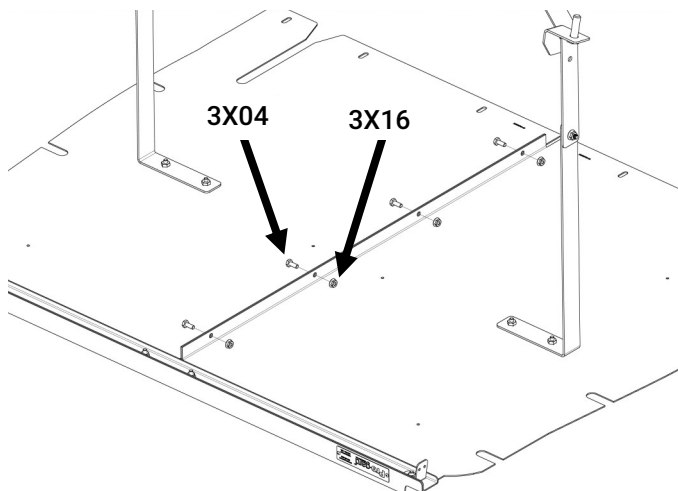

Figure 7
D. Loosely install (1) [3X16] whiz nut and (1) [3X03] Phillips head screw in the hole on the inside rear of the driver cover panel to fully secure the panel to the rear cross member.
E. Repeat steps B.-D. for the passenger side using (1) [3CSC6718-09] cover support bracket, (2) [3X16] whiz nuts, (4) [3X03] Phillips head screws, and the (1) passenger side cover panel [3CSC6718-08].
F. On the underside of the covers, align the (4) holes that attach the driver and passenger panels together. Loosely secure with (4) [3X04] hex bolts and (4) [3X16] whiz nuts (Fig 7).